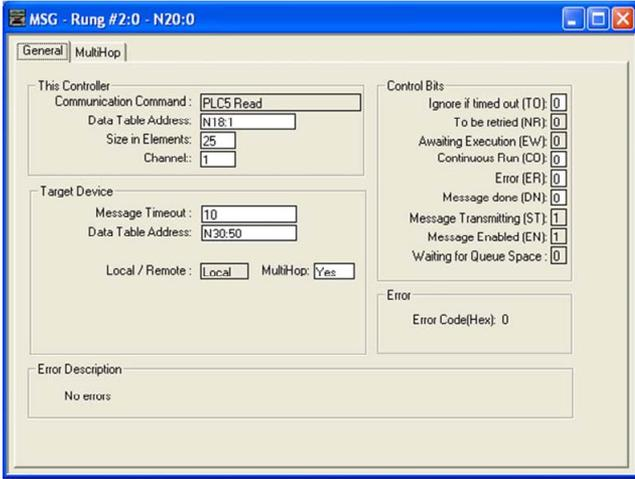

Figure 103: MSG Configuration, "General" Tab
- b) Upon hitting the <ENTER> key while in the “Control Block” entry box, the MSG Properties dialog box should appear (or it can be opened by clicking on the “Setup Screen” button at the bottom of the MSG instruction). Refer to Figure 103.